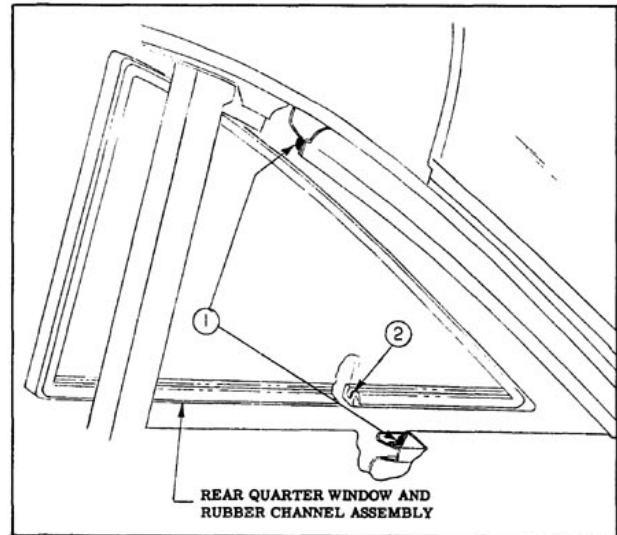

Fig. 16-84 Sealing Quarter Window
4. To install, reverse removal procedure. Prior to installing quarter window glass and rubber channel, clean off old sealer from rubber channel and body opening to insure a smooth sealing surface. Apply a ribbon of medium-bodied sealer in corner of rear quarter side outer panel rabbet (1, Fig. 16-84) completely around window opening. After glass and rubber channel have been installed, apply a bead of weatherstrip cement between outer surface of the glass and rubber channel (2, Fig. 16-84) completely around the window and rubber channel. Clean off excess sealer and cement.